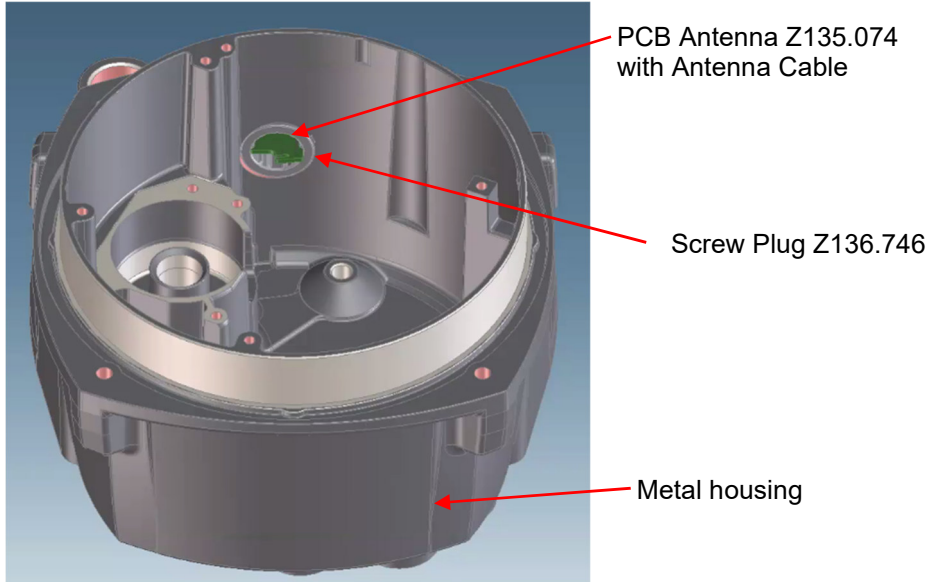

Figure 2: Installation of the Antenna Z135.074
2. The Antenna Z135.074 must be pushed into the screw plug Z136.746 screwed into a metal housing (see Figure 2)